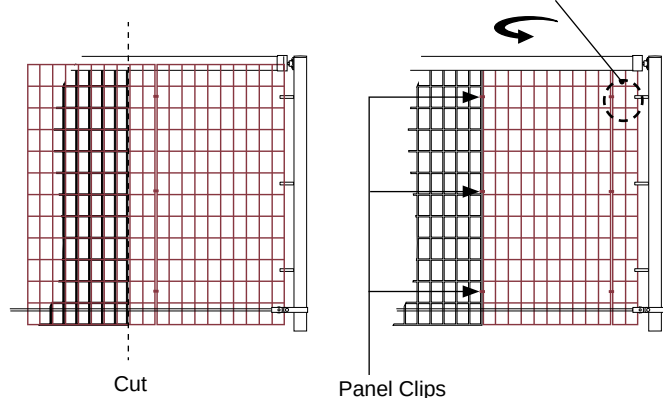

Fig. 15 Fence Panel Installation
- Lift the fence panel section up into the rail. Insert a panel-to-rail clip inside the rail connector cup. Make sure the top wire is seated in the lip of the clip. Lock into place using supplied tool. (Fig. 15)